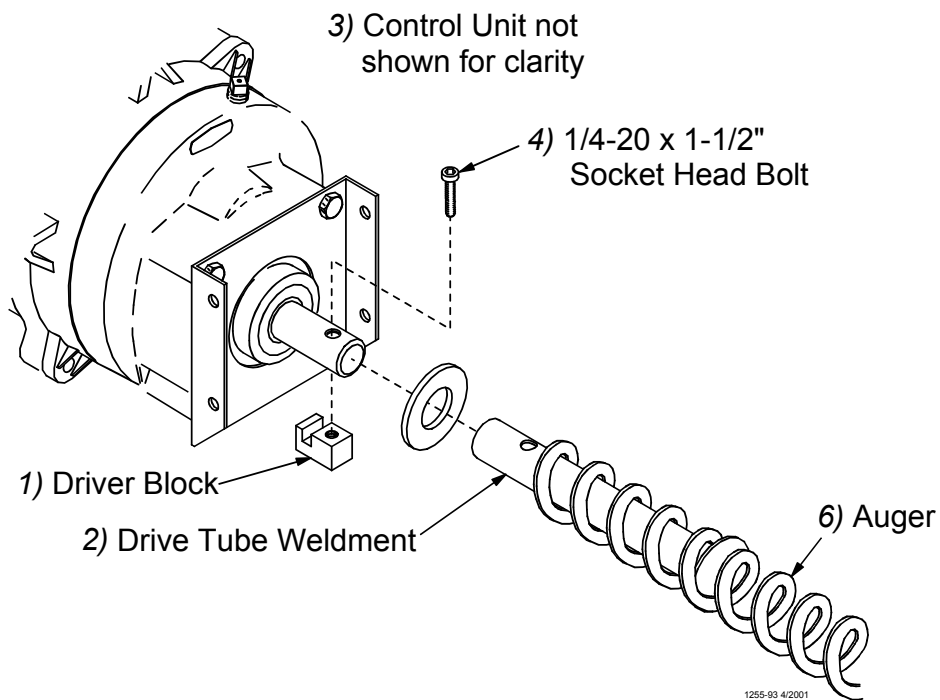

Figure 34. Auger Driver Components
4. Slide the Drive Tube and flat washer over the output shaft on the Power Unit, as shown in **Figure 34**.
6. Turn the Drive Tube Weldment into the auger, then attach to the output shaft of the Power Unit, as shown in **Figure 34**. Use the Driver Block to secure the auger to the Output Shaft.